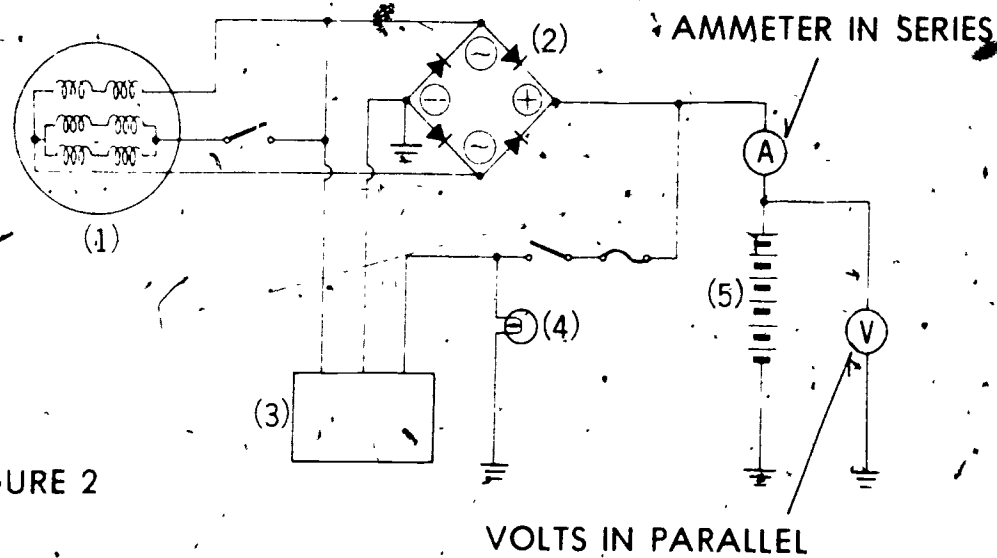

FIGURE 2
- D. Start the engine and read the charging amperage and voltage at the different engine speeds as specified in the appropriate service manual (Figure 2)
(NOTE: A suitable test lamp can be made by soldering two leads to an ordinary automotive light bulb, one lead should be soldered to the bulb case, and the other lead soldered to the bulb contact. Be sure to use a 6 volt lamp for a 6 volt system and a 12 volt lamp for a 12 volt system. See Figure 2.)
B. Bench test half-wave rectifier (Figure 2)